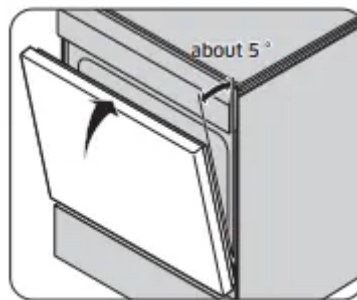

Fig. 1
4. Close the door to the door removal position, which is approximately 5 degrees from vertical (Fig. 1). removed.